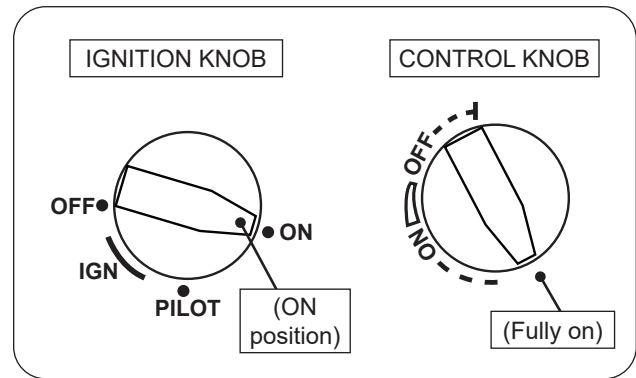

Fig. 31-1 Manual lighting
1. Ensure the pilot is burning. Turn the ignition knob counterclockwise ↶ to **ON** (see Fig. 31-1).
2. Turn the control knob counterclockwise ↶ to the fully ON position to ignite the burner (see Fig. 31-1).